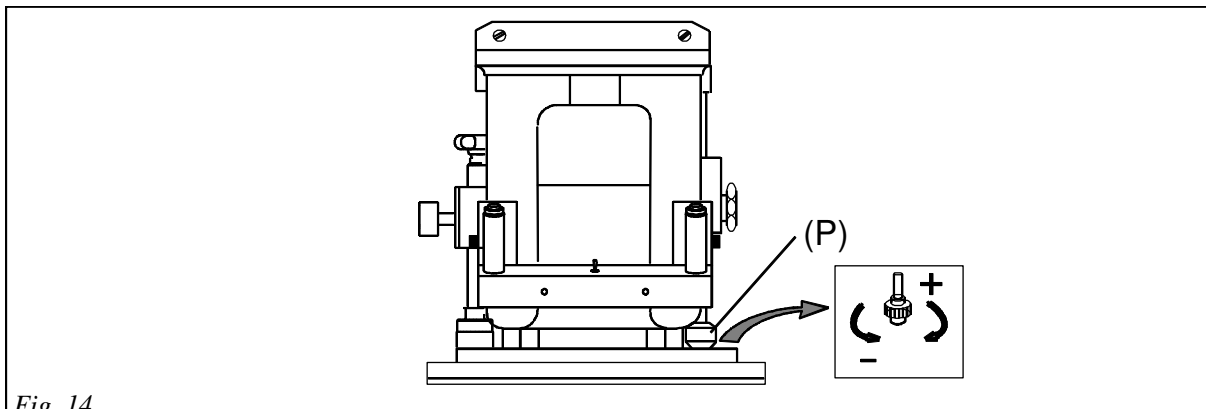

Fig. 14
d) it is possible to adjust the cutting power through the ring nut (P) following indications written on the proper plate (Fig. 14);